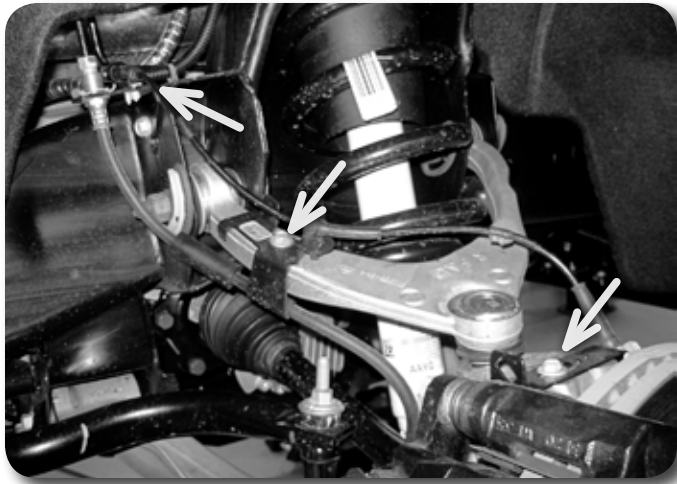

Figure 1
3. Disconnect the ABS line from the connector on the frame **Figure 1**. Remove the ABS line from the retaining clips at the frame, upper control arm and knuckle.
4. Disconnect the brake line bracket from the upper control arm **Figure 1**. Save bolt.